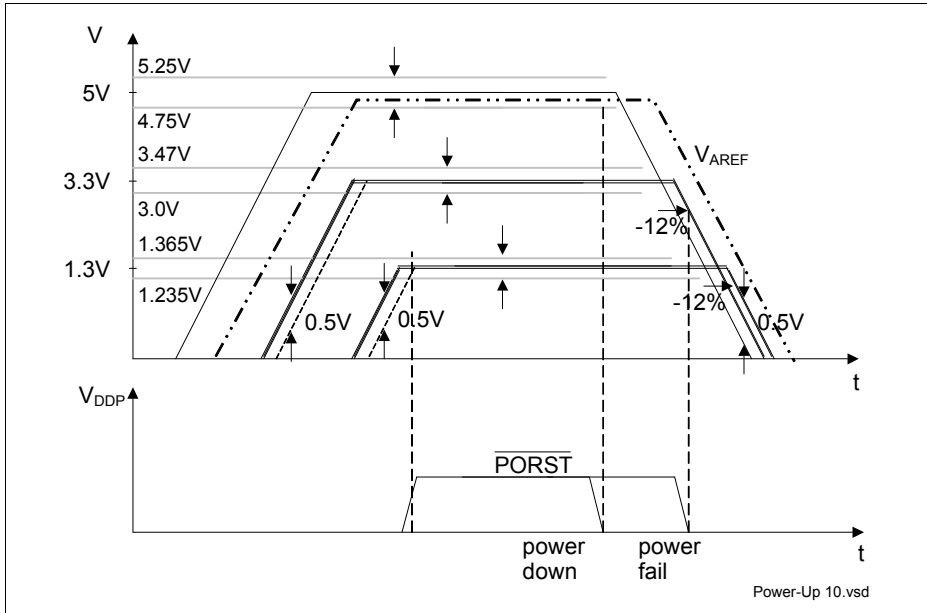

Figure 12 5 V / 3.3 V / 1.3 V Power-Up/Down Sequence
- At any moment in time to avoid increased latch-up risk, each power supply must be higher than any lower_power_supply - 0.5 V, or: $VDD5 > VDD3.3 - 0.5\text{ V}$; $VDD5 > VDD1.3 - 0.5\text{ V}$; $VDD3.3 > VDD1.3 - 0.5\text{ V}$, see **Figure 12**.